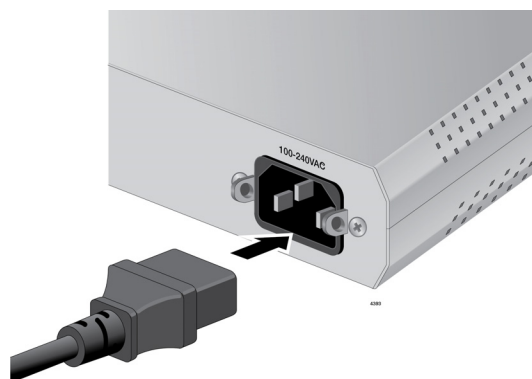

Figure 35. Plug Power Cord into Rear Panel AC Connector
1. Insert the AC power cord provided into the rear AC input connector of the switch as shown in Figure 35.